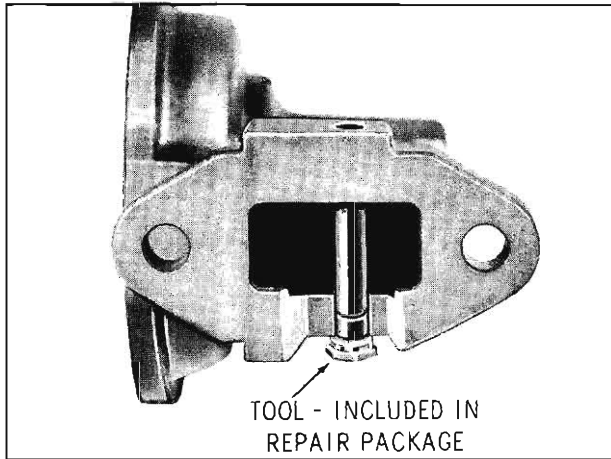

Fig. 3-484 Centering Rocker Arm Pin
6. Install the rocker arm pin through the pump body and the rocker arm, with the chamfered end first. Use the centering tool furnished in the kit to insure the correct positioning of the pin, thus making sure that it is centered in the pump body. (Fig. 3-484)